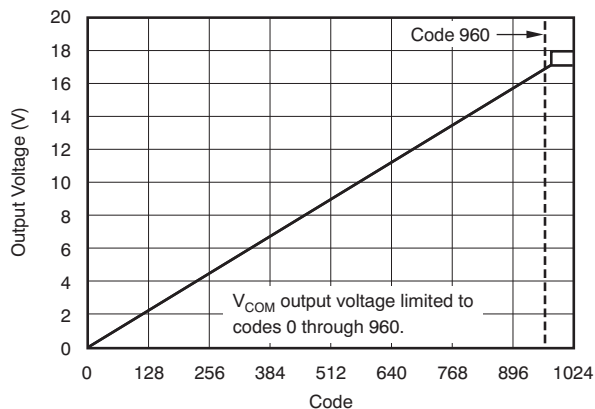
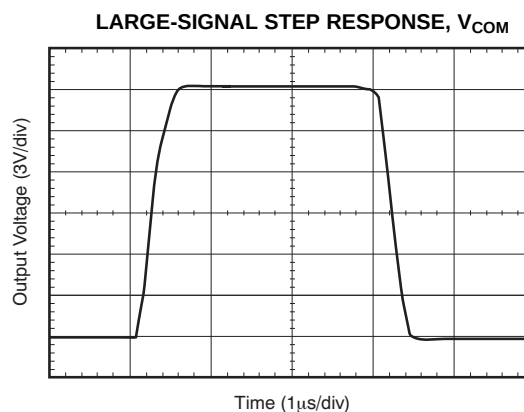

Figure 3.
Figure 12.
(2) See Figure 12, Large-Signal Step Response,  $V_{COM}$ .
(3) Observe maximum power dissipation.
(4) The  $V_{COM}$  output voltage is limited to codes 0 through 960; see Figure 3. This limitation is for  $V_{COM}$  only and does not affect DAC OUT, 1 through 8.
(5) Thermal pad attached to printed circuit board (PCB), 0lfm airflow, and 76mm  $\times$  76mm copper area.